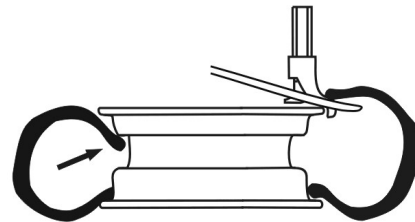

Fig.19
- Pry the tyre edge on the front end of the mounting head(Fig. 19)